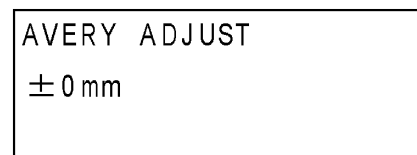

Fig. 49
- (1) Press the "RET" key. The display shifts to one as shown in Fig.49 and the correction value currently written in the EEPROM.